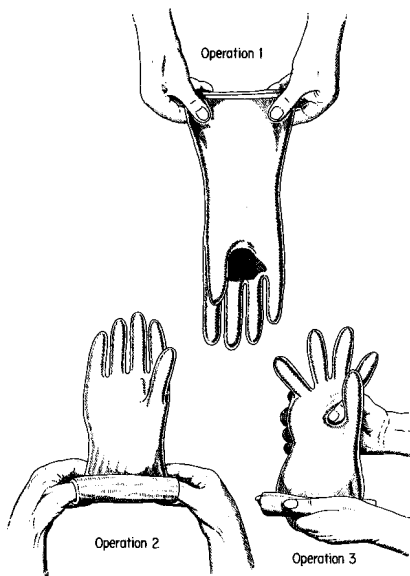

FIGURE 4.
- 8.01 The air test is to be made before and after each use of the insulating gloves. Make this test as follows: (See Figure 4.)